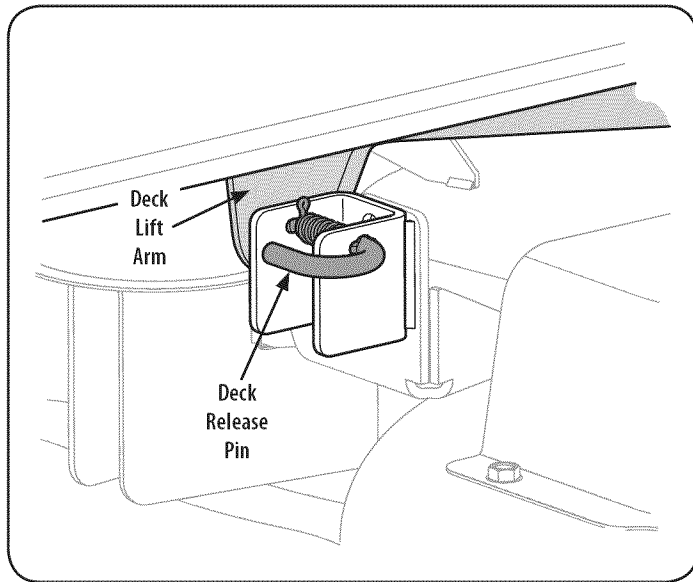

Figure 35
8. Locate the LH and RH deck release pins on each side of the deck. Pull the release pins outward and release the deck from the LH and RH deck lift arms. See Figure 35.
4. Pull the deck release pins outward and maneuver the deck as necessary to align the holes in the deck lift arms with the pins. Refer to Figure 35.